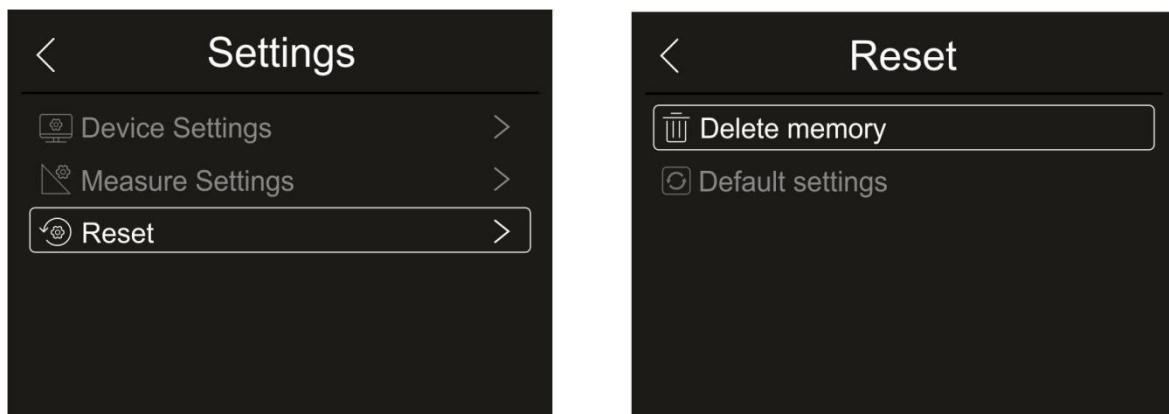

Fig. 31: Instrument reset menu
1. Touch the item “Reset”. The screen in Fig. 31 – right side appears on the display. Touch the item “Delete memory”. The following confirmation screen is displayed: